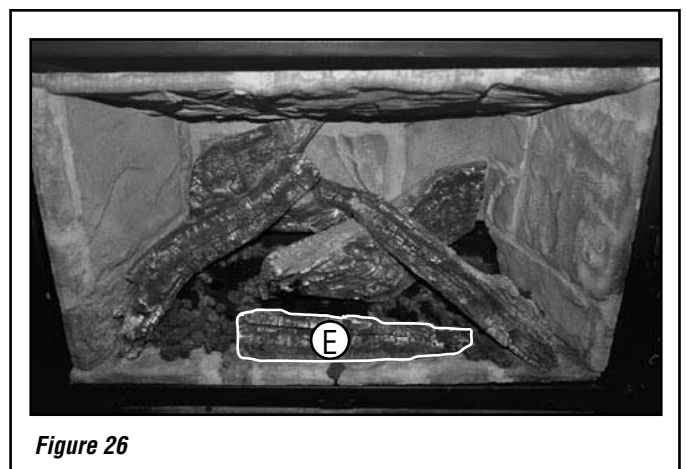

Figure 26
- Place the front log (E) as shown in **Figure 26**, making sure no burner ports are covered. Place the decorative lava rock around logs as desired, again making sure there are no ports or holes covered.
- Figure 26** shows the complete set of ceramic logs in the correct locations.